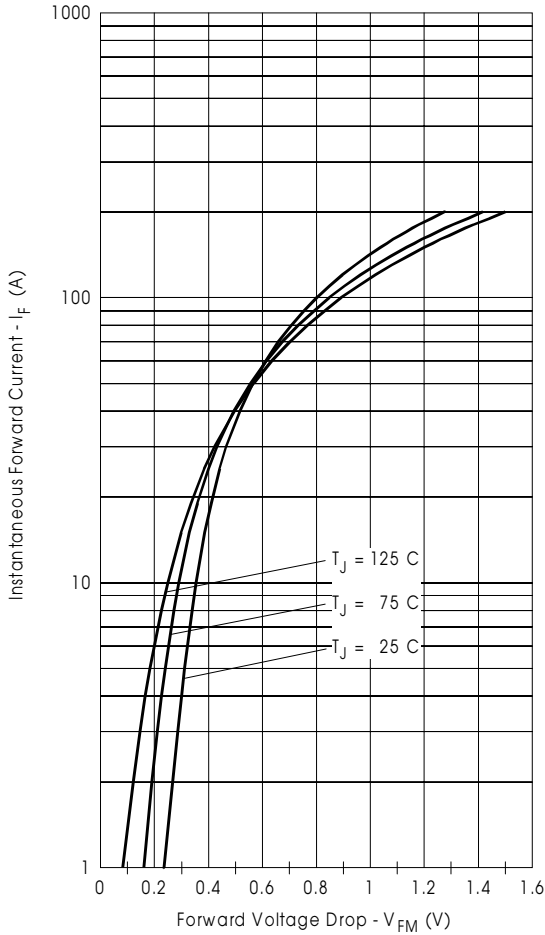

Fig. 1 - Maximum Forward Voltage Drop Characteristics
V_{FM} Forward Voltage Drop * See Fig. 1 (1)	Typ. Max.